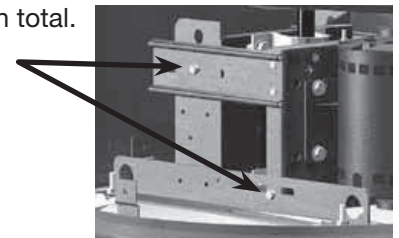

Figure 12
10. Belt tension can be adjusted by loosening four fasteners on the drive frame. See Figure 12. The motor plate slides on the slotted adjusting arms and drive frame angles in the same manner.
Belts too tight or too loose	Adjust tension, see page 7, Figures 12 and 13.